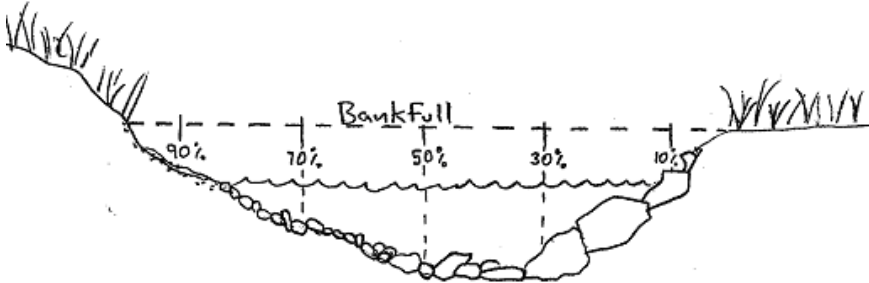

Figure 18. Location across transect for pebble count sampling.
- Samples will be taken at 10, 30, 50, 70, and 90% of the way across the bankfull channel width, starting from river left (Figure 18).